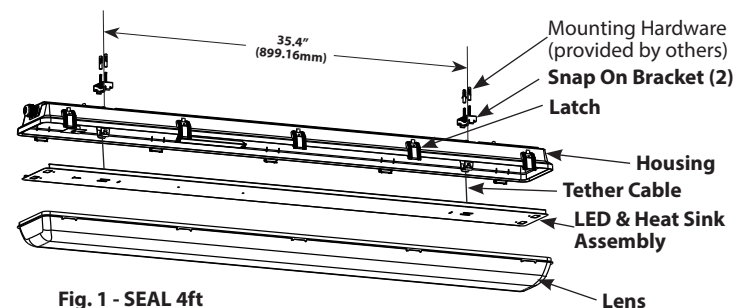
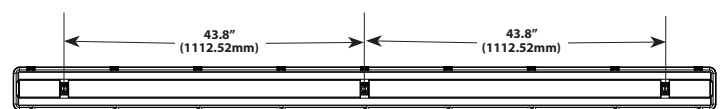

Fig. 1 - SEAL 4ft
Fig. 2 - SEAL 8ft
1. Use appropriate mounting hardware (not supplied) to secure the **Snap On Brackets** to mounting surface. Refer to recommended **Snap On Bracket** in **Fig. 1** for SEAL 4ft and **Fig 2** for SEAL 8ft.
WARNING: Mount Snap On Brackets symmetrical about the center as shown in **Fig. 1** and **Fig. 2**. **Snap On Brackets** must be aligned with each other to secure **Housing**.